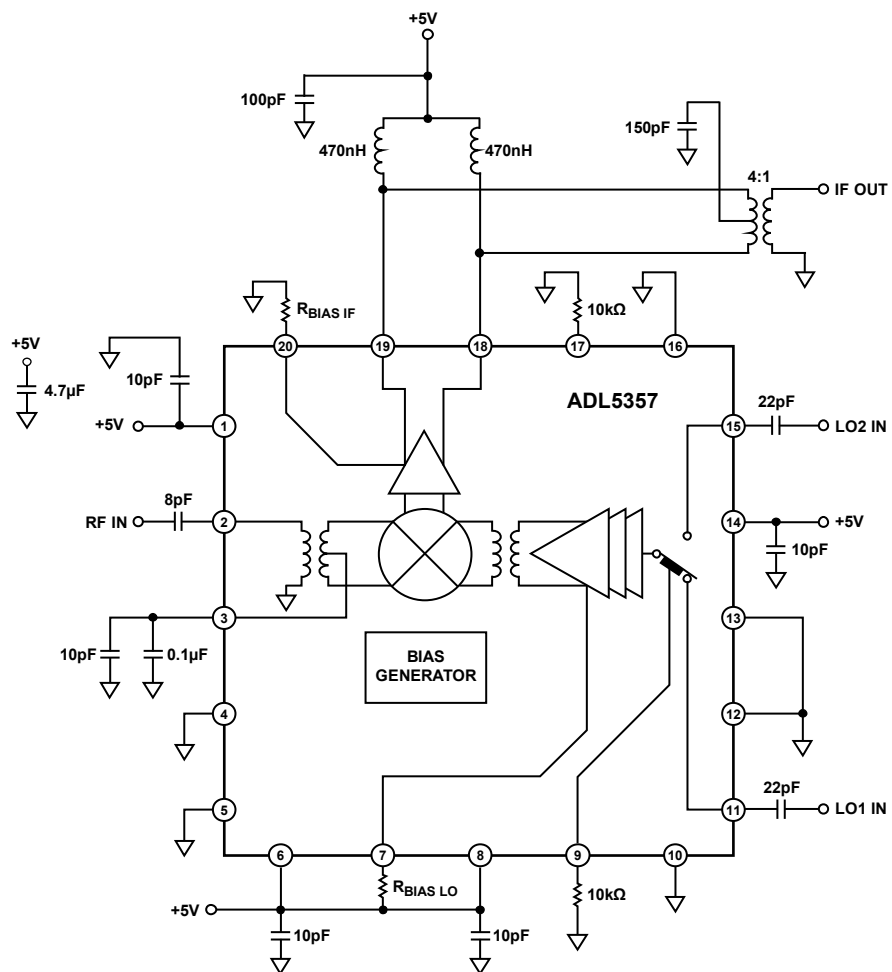

Figure 52. Typical Application Circuit
The ADL5357 mixer is designed to downconvert radio frequencies (RF) primarily between 500 MHz and 1700 MHz to lower intermediate frequencies (IF) between 30 MHz and 450 MHz. Figure 52 depicts the basic connections of the mixer. It is recommended to ac couple RF and LO input ports to prevent non-zero dc voltages from damaging the RF balun or LO input circuit. The R_{FIN} capacitor value of 8 pF is recommended to provide the optimized RF input return loss for the desired frequency band.
The real part of the output impedance is approximately 200 Ω , as seen in Figure 30, which matches many commonly used SAW filters without the need for a transformer. This results in a voltage conversion gain that is approximately 6 dB higher than the power conversion gain, as shown in Table 3. When a 50 Ω output impedance is needed, use a 4:1 impedance transformer, as shown in Figure 52.